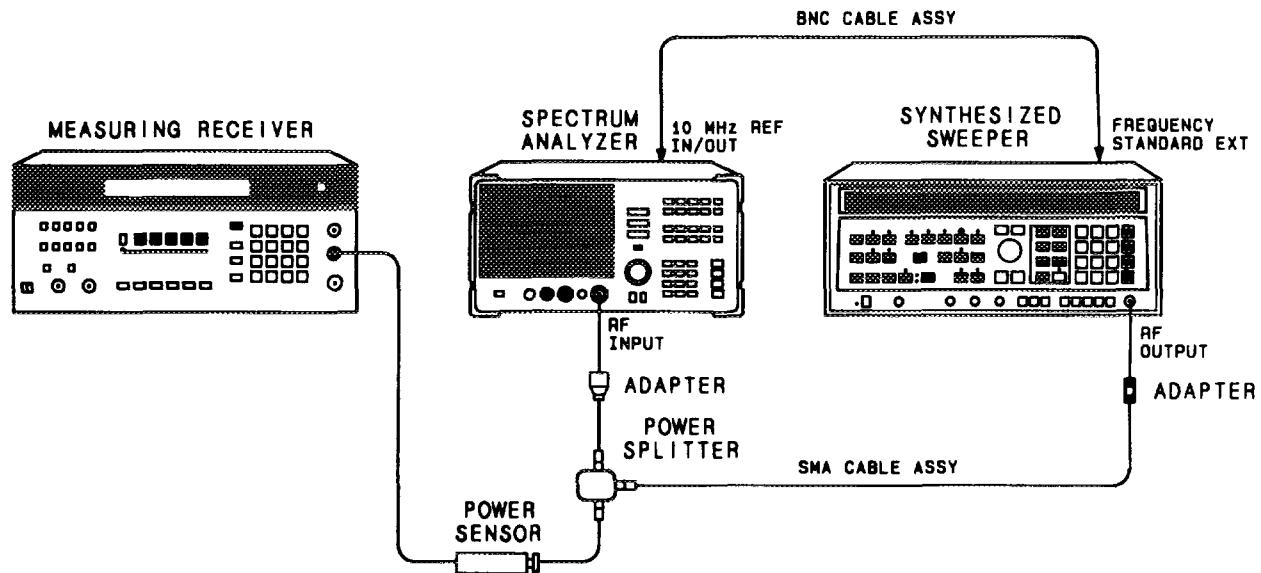

Figure 3-17. Frequency Response Test Setup, 50 MHz to 22 GHz
2. Connect the equipment as shown in Figure 3-17.